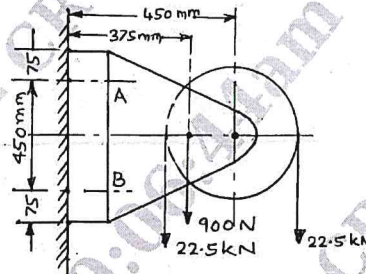

Fig. Q4 (b)
- b. A pulley bracket as shown in Fig. Q4 (b) is supported by 4 bolts, two at A - A and two at B - B. Determine the size of the bolts using an allowable shear stress of 25 MPa for the material of the bolts. (10 Marks)